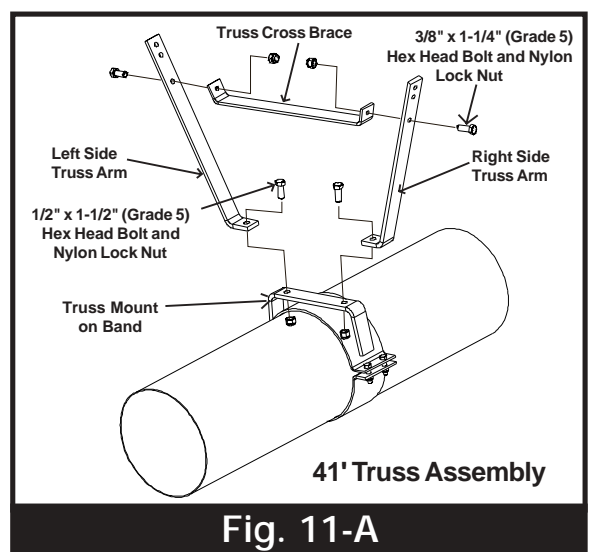

Fig. 11-A
- A. Position the track under the tube housing close to the position indicated in the drawings on page 16-17 for your size auger. Loosely attach track to tube by bolting the half-bands to the track using six (6) 3/8" x 1-1/2" (grade 5) hex head capscrews and nylon locknuts. Make sure the track can slide freely along the tube for final positioning.
A. 42' Truss Assembly (See Fig. 11-A)
3. Fasten the truss crossbrace in between the right and left side truss arms using two (2) 3/8 x 1-1/4" (grade 5) hex head bolts and nylon lock nuts.
B. 52' Truss and 72' Upper Truss Assemblies. (See Fig. 11-B)
1. Attach right and left side truss arms to the left and right side of the truss mounting band using four (4) 1/2" x 1-1/2" (grade 5) hex head bolts and nylon locknuts. **TIGHTEN BOLTS ONLY FINGER TIGHT AT THIS TIME.**
2. Fasten the truss crossbrace to the left and right side truss arms using two (2) 3/8" x 1-1/4" (grade 5) hex head bolts and nylon locknuts.
C. 62' Truss Assembly (See Fig. 11-C)
1. Attach right and left truss arms to the right and left sides of the track using two (2) 5/8" x 1-1/2" hex head bolts (grade 5) with nylon locknut. **TIGHTEN ONLY FINGER TIGHT AT THIS TIME.**
2. Fasten lower and upper truss cross braces in between the right and left side truss arms using four (4) 3/8" x 1-1/4" (grade 5) hex head bolts and nylon locknuts.
D. 72' Lower Truss Assembly for Winch Mount (See Fig. 11-D)
2. Fasten the lower truss crossbrace to the inside of the two 39-1/2" truss arms using two (2) 3/8" x 1-1/2" hex head bolt and nylon locknuts.
3. Attach the upper truss crossbrace to the inside of the two 39-1/2" truss arms and attach the vertical truss tubes to the outside of the 39-1/2" truss arms using the same two (2) 3/8" x 1-1/2" hex head bolt and nylon locknuts.
4. Attach the other end of the vertical truss tubes to the bottom of the 30" long truss arms using two (2) 3/8" x 1-1/4" hex head bolt and nylon locknuts.